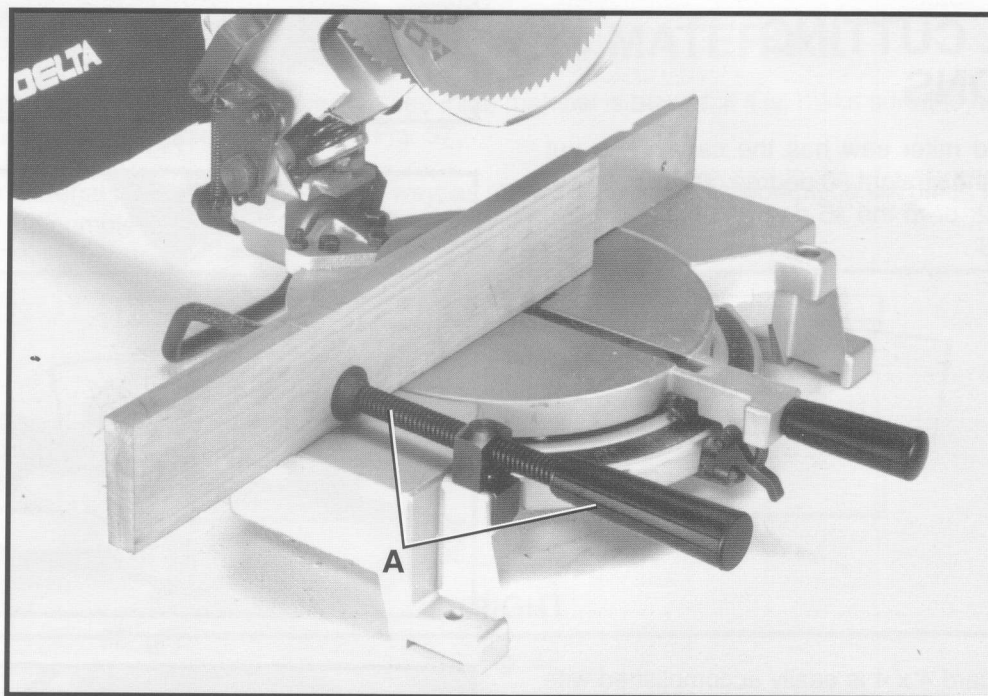

Fig. 30
3. Place the workpiece on the table and hold or clamp it firmly against the fence. Fig. 30, illustrates the accessory 36-221 work clamp (A) being used to clamp a workpiece to the fence. The clamp (A) can also be used on the right side of the machine.
5. **WARNING:** If the workpiece you are cutting would cause your hand to be within 4 inches of the saw blade, the workpiece should be clamped in place before making cut. See Fig. 30.